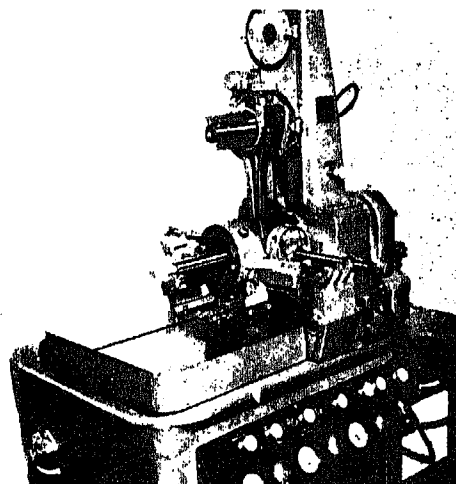

Fig. 1-8-6. Boring piston pin bushing
6. Mount connecting rod in Boring Machine. Fig. 1-8-6.